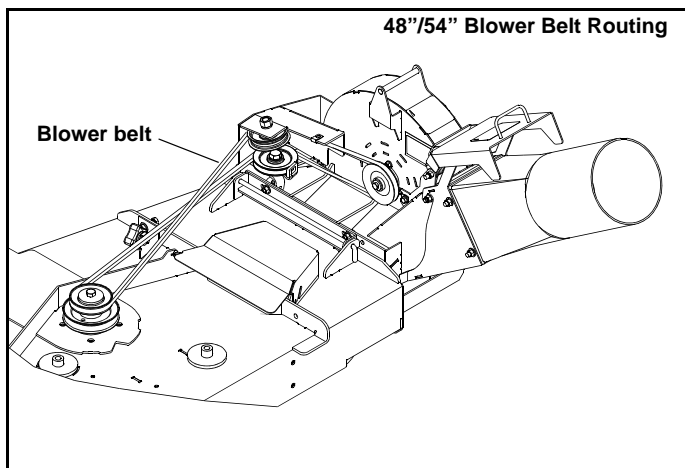
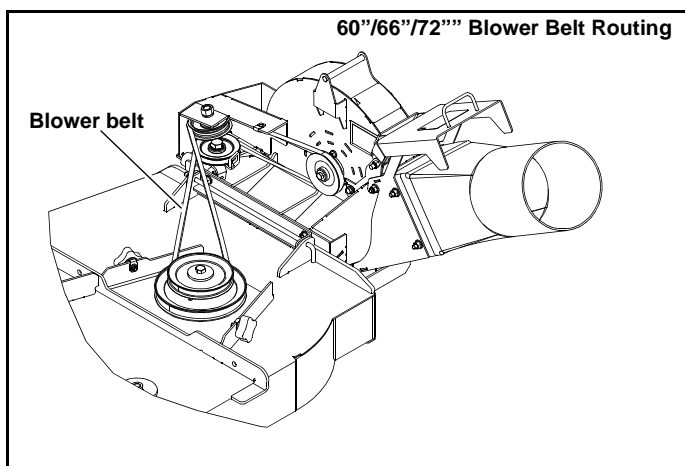

Figure 3-6
Figure 3-7
9. Install and route the blower belt around the blower pulleys and the upper pulley on the double pulley. This belt is self tensioning. Figure 3-6 or Figure 3-7